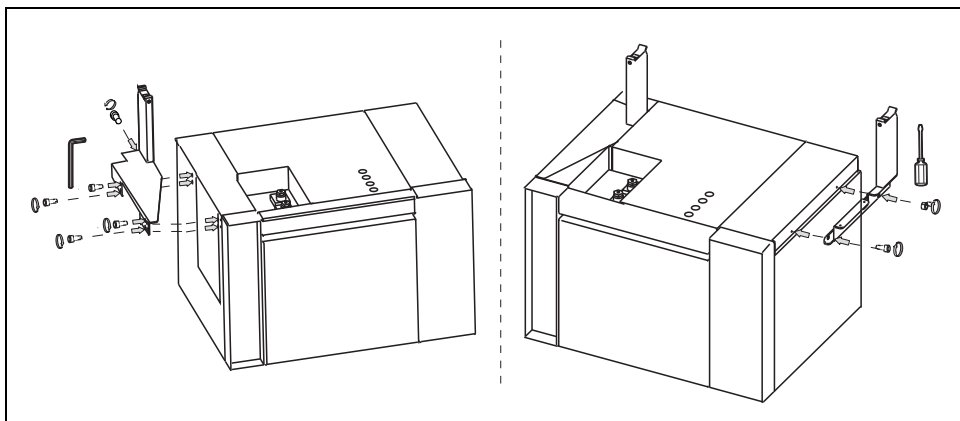

Figure 4-5. Sampler Supports Installation on the First Agilent 5890 GC (1)
2. Mount the sampler supports on the GC left and right sides of the first GC unit as shown in Figure 4-5.